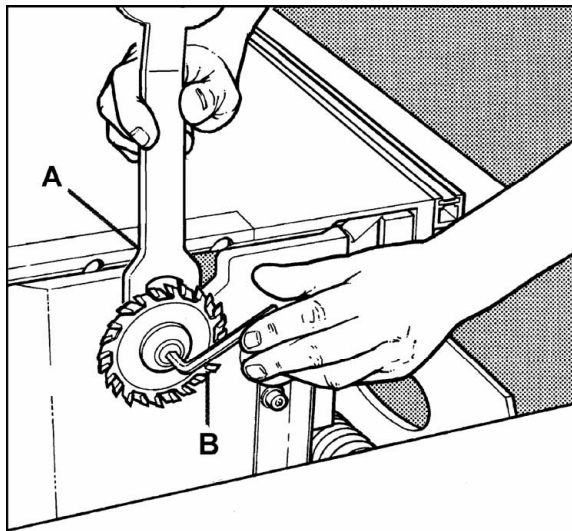

Figure 17
3. Tilt scoring blade all the way, and place spanner (A, Figure 17) on the flat of the arbor.
4. Loosen the bolt with the hex wrench (B, Figure 17). (NOTE: Right hand threads-turn counterclockwise to loosen).